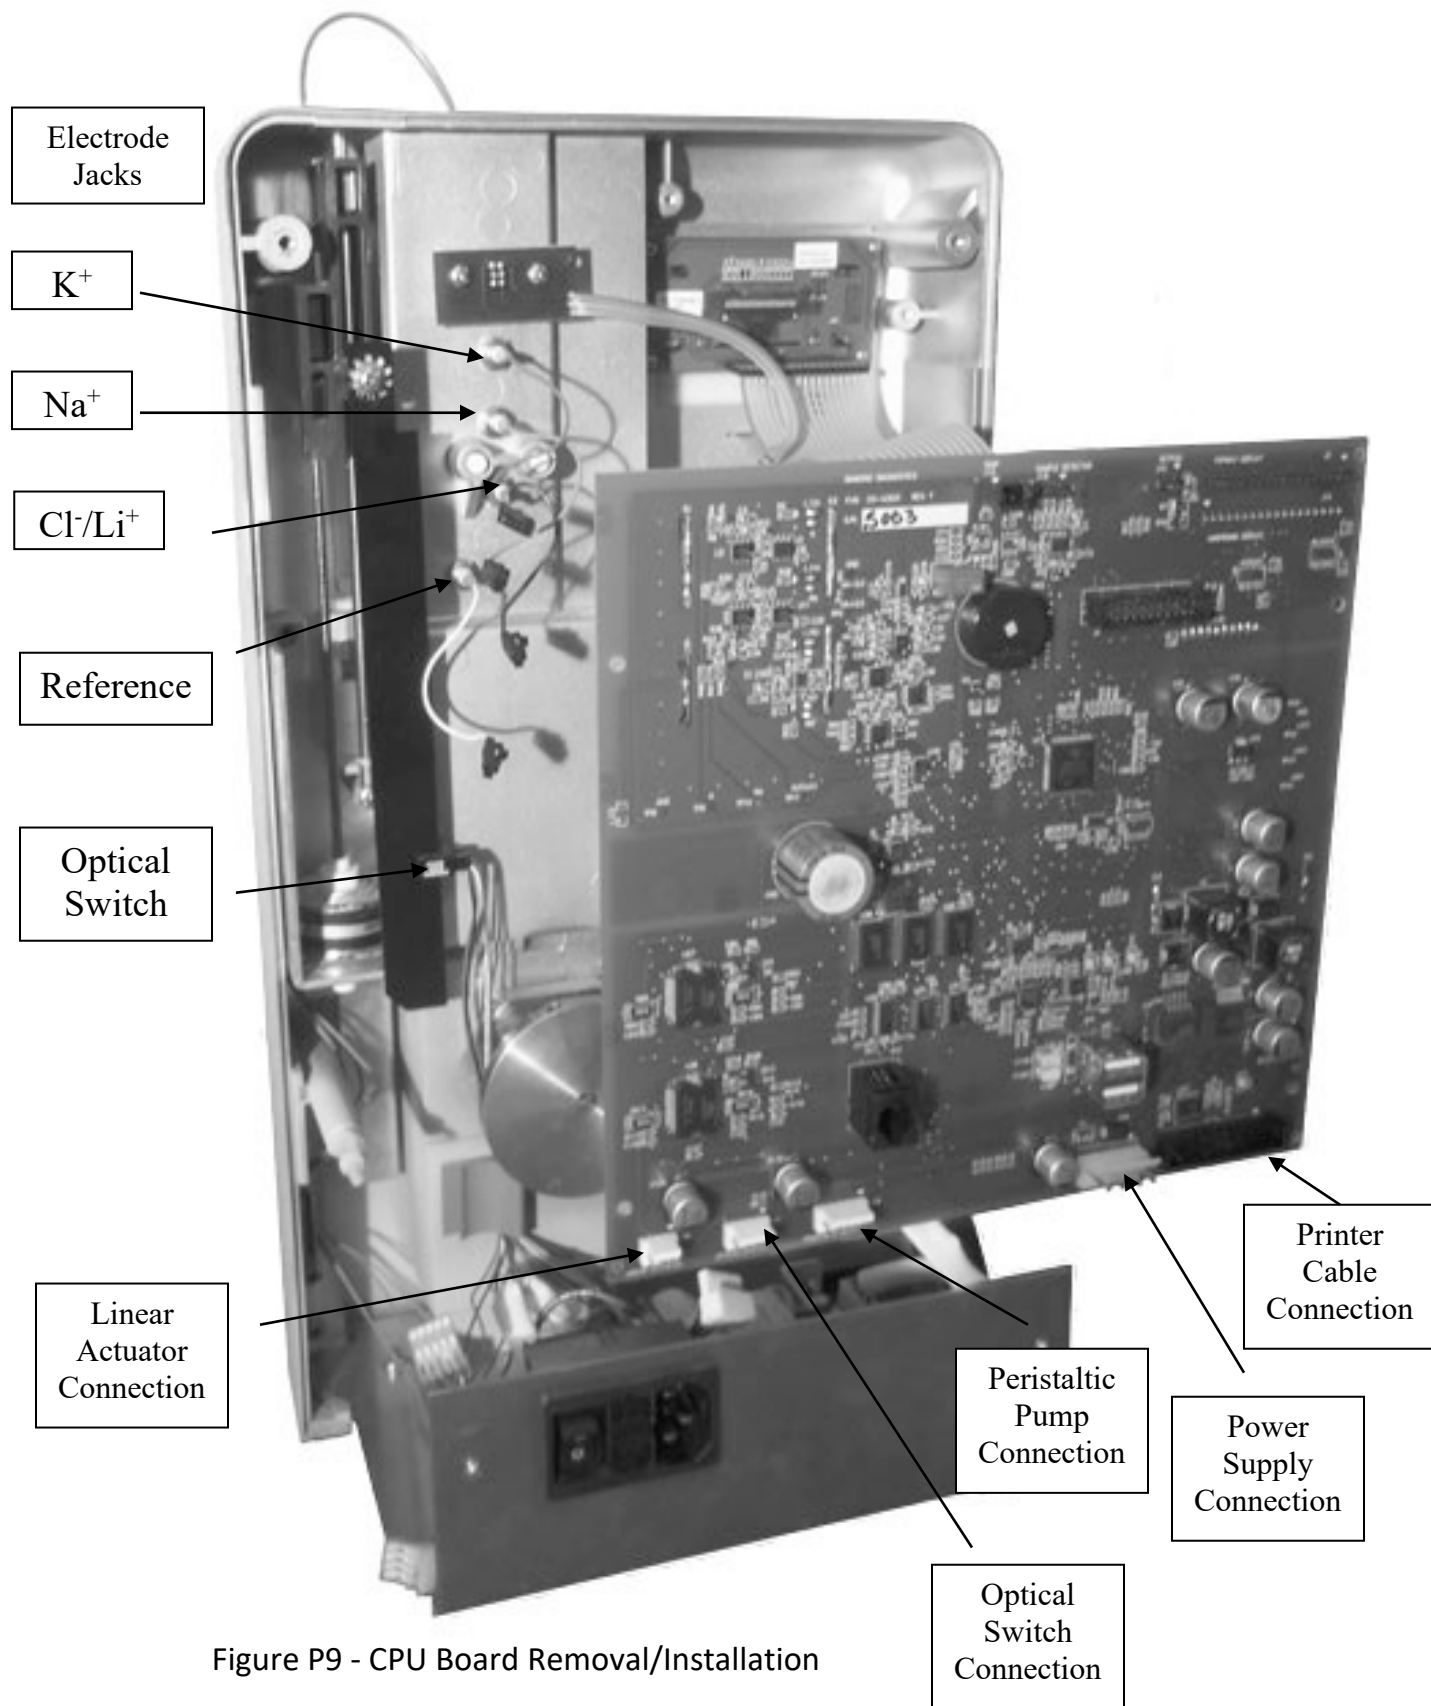

Figure P9 - CPU Board Removal/Installation
2. Remove the display cable from the top of the CPU board shown in Figure P9.
6. Slide the CPU board off the mounting posts. See Figure P9.
2. Connect the electrode jacks to the back of the CPU board. To connect, gently push the electrode jack connectors straight into the CPU connectors until you hear a click. See Figure P9 to determine the proper connector pin position on the CPU board and the recommended installation order.
4. Connect the probe motor, sensor, pump motor, power supply and printer cables to the CPU board, See Figure P9.